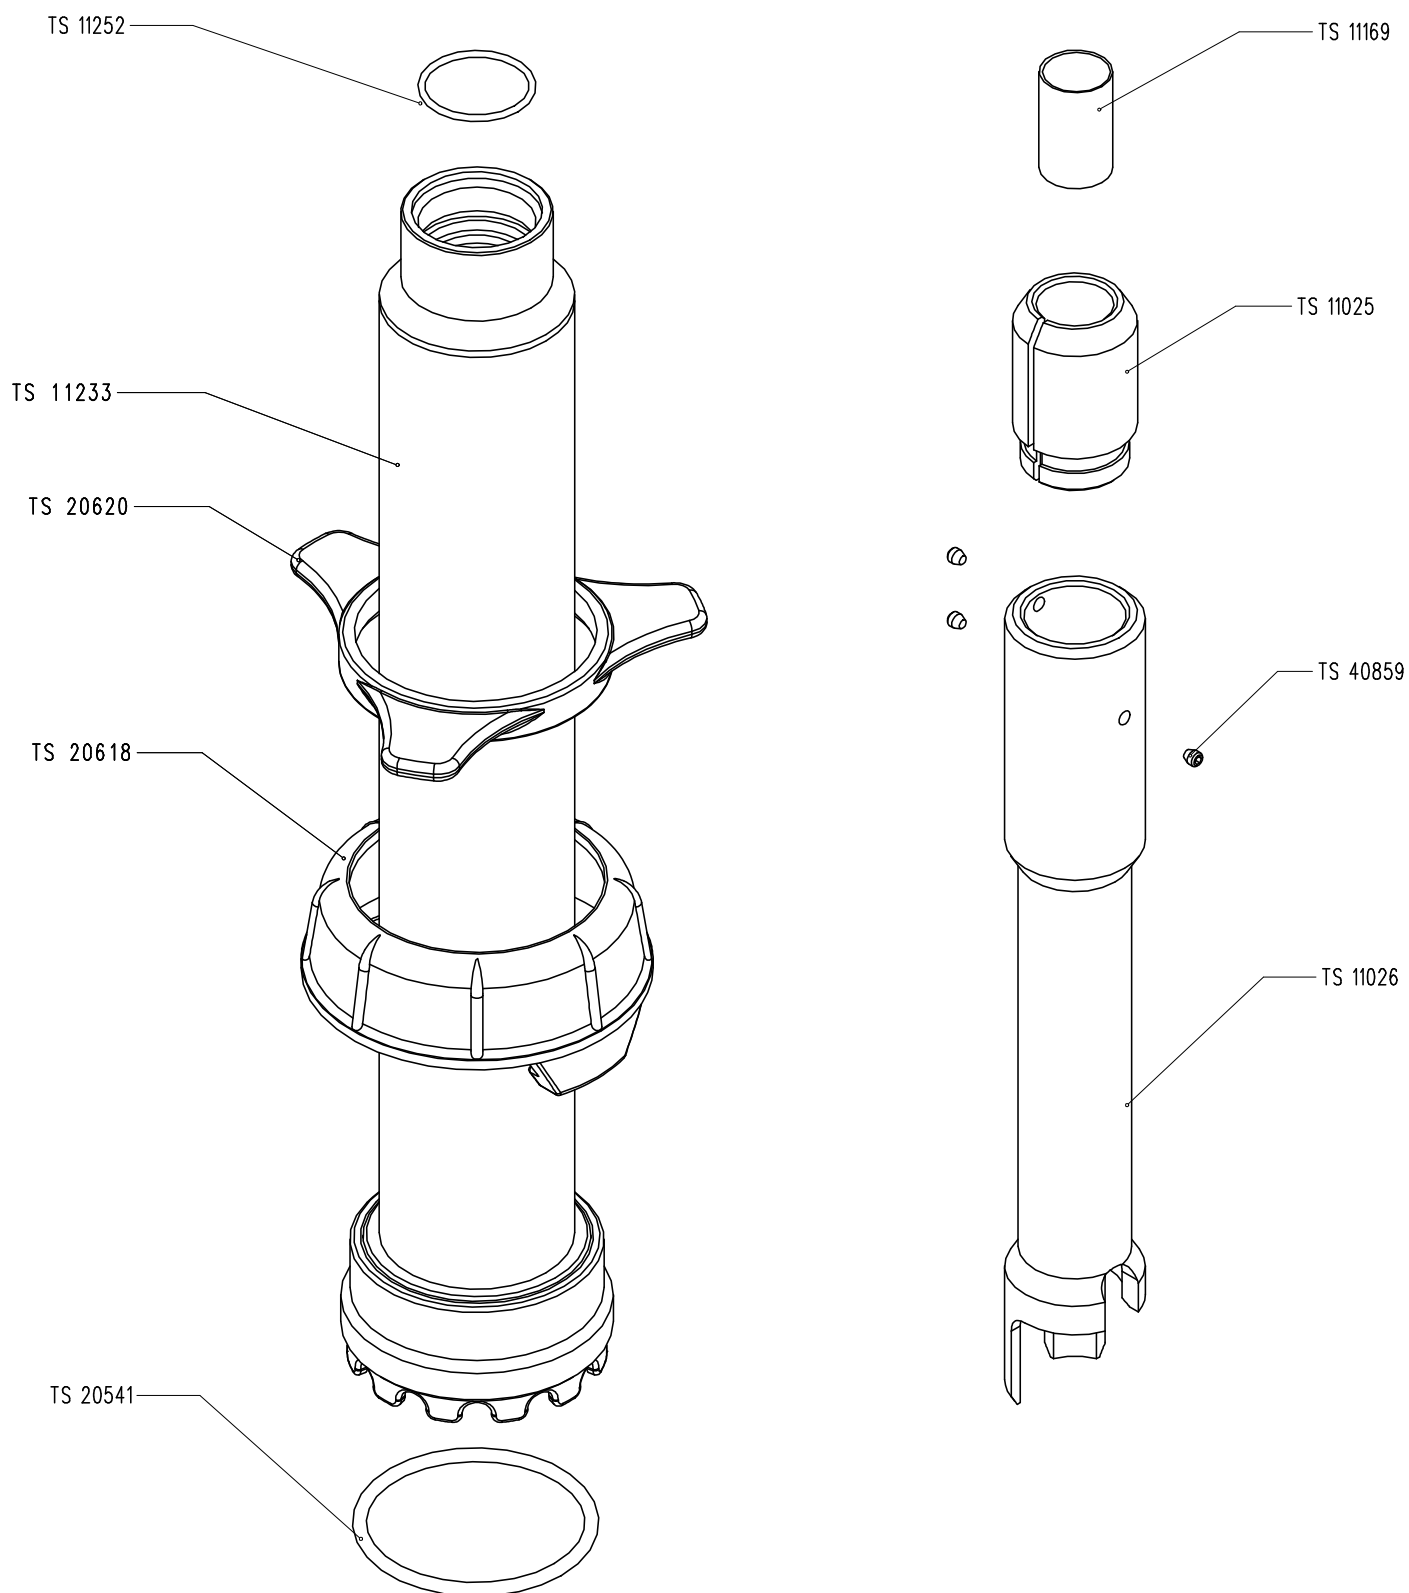

Figure 12-7: storage tube SS2-Q2 with load TS 10182, details
- Figure 12-7: storage tube SS2-Q2 with load TS 10182, details